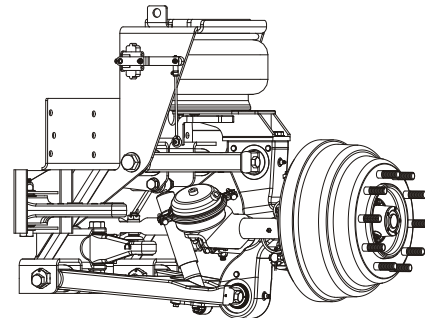

Figure 9 - Steering Arm Assemblies
2. Start vehicle engine. Oscillate the steering wheel and observe the motion of the steering arm assemblies (Figure 9). The steering arm assemblies should not exhibit any noticeable conical motion about their pivot axes.